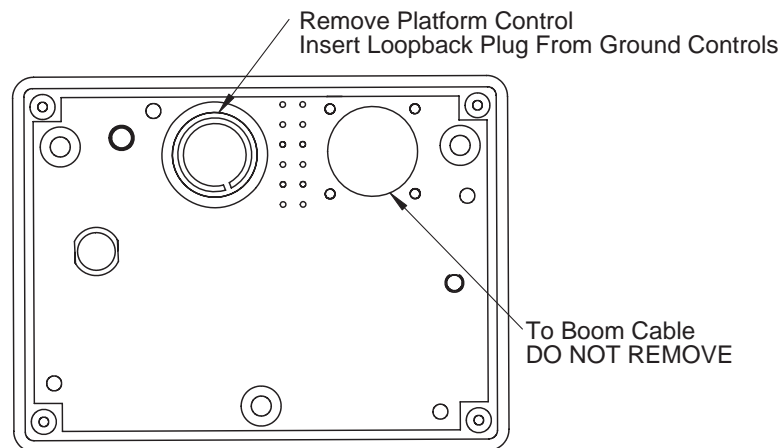

Figure 8-1. Load Sense Module
- Disconnect the electric loopback plug from the receptacle on the bottom right of the Ground Control Box and insert it into the Platform Control Box. See Figures 8-1 & 8-2.